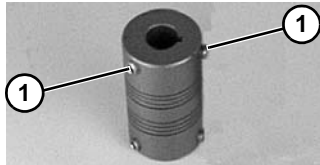

Figure 20
Coupling has two (2) set screws (Figure 20, item 1).